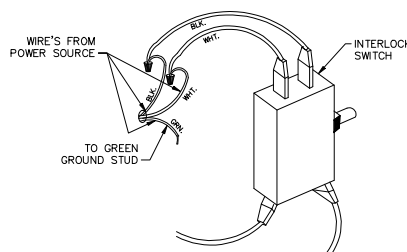

FIG. 2
5. Cut power cord six inches from interlock switch, strip insulation back 1/2" and, using wire nuts, connect black and white wire from conduit to interlock. (See FIG. 2.)